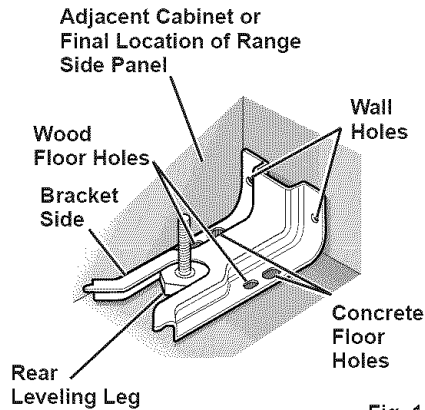

Fig. 1
B. Use the bracket as a template and mark 2 hole positions on the wall and 2 hole positions on the floor. Use either the wood or concrete floor set of positions, depending on your floor type. See **Fig. 1**.
- B. Check if the **ANTI-TIP** bracket is installed and engaged properly. Remove the kick panel or storage drawer and inspect the **REAR LEVELING LEG**. Make sure it fits securely into the slot. See **Fig. 1**.